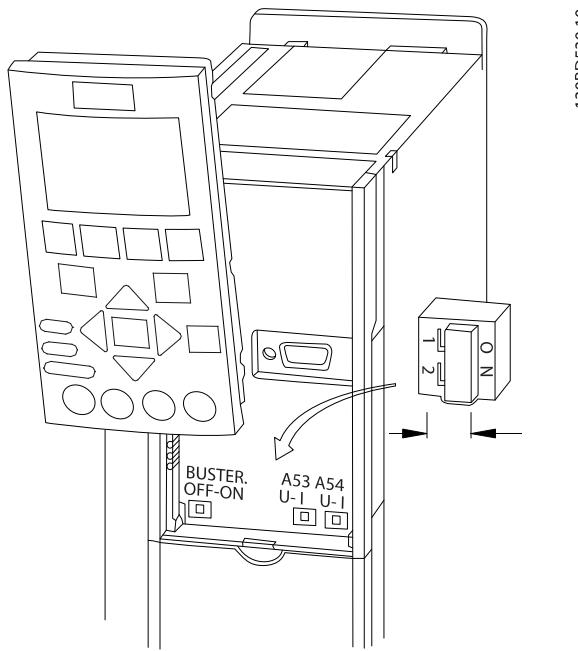

Figure 4.17 Location of Terminal 53 and 54 Switches
1. Remove the LCP (local control panel) (see *Figure 4.17*).
- Terminate each segment at both ends, using either the termination switch (bus term on/off, see *Figure 4.17*) on the adjustable frequency drives, or a biased termination resistor network.